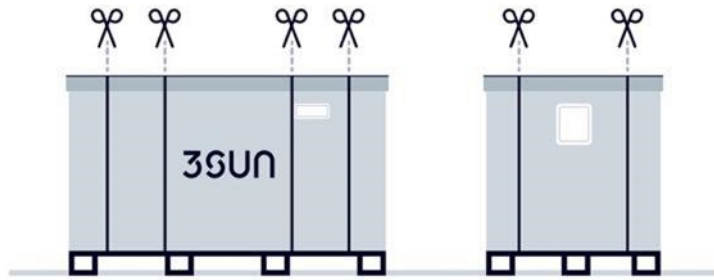

Figure 13: Box internal straps removal order.
- a) Cut the outer box straps (Figure 13).